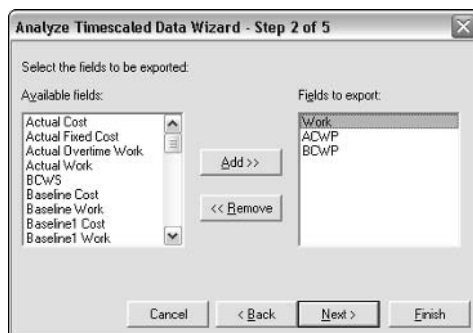

Figure 14-20: Select fields to export to Excel.
5. Select the appropriate earned value fields from the Available fields list box; click Add to move the fields to the Fields to export list box. Highlight the Work field in the Fields to export list box, and click the Remove button, as shown in Figure 14-20. Click Next.